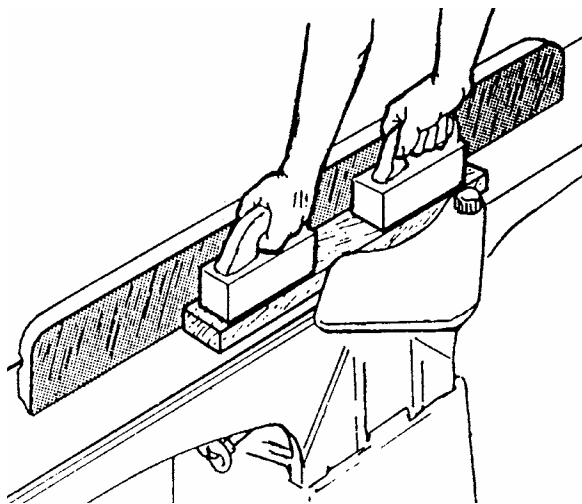

Figure 33
- ❑ On stock longer than 12 inches use two push blocks (Figure 33).